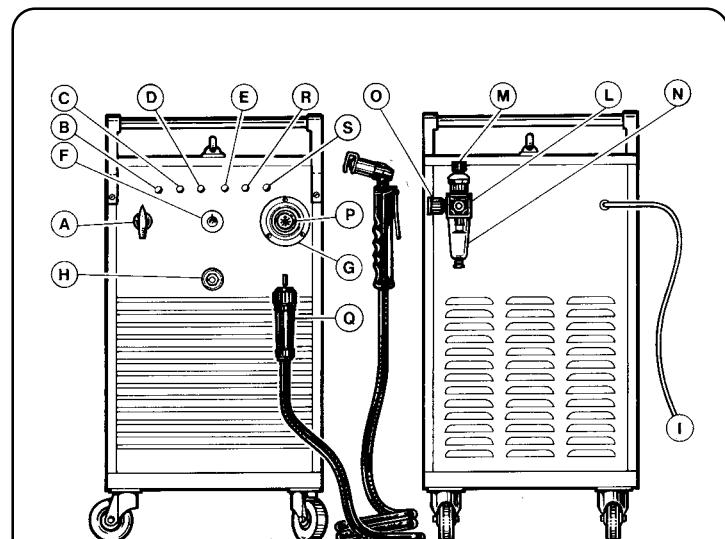

fig. 2
b) If the system is plugged into the mains, use a plug having the capacity indicated on the tag. In this case, the plug must be used to fully disconnect the machine from the mains, after first setting the switch A (fig. 2) to "0" (off).
To avoid overloads, a thermal safety device is located on the power transformer coils. When tripped, it lights the indicator lamp C (see Fig. 2).
To prevent the machine from running with insufficient air pressure, a pneumatic safety device is located on the torch feed. When tripped, it lights the indicator lamp D (see Fig. 2).
out to the point of needing replacement. When this occurs, it lights the indicator lamp **E** (see fig. 2).